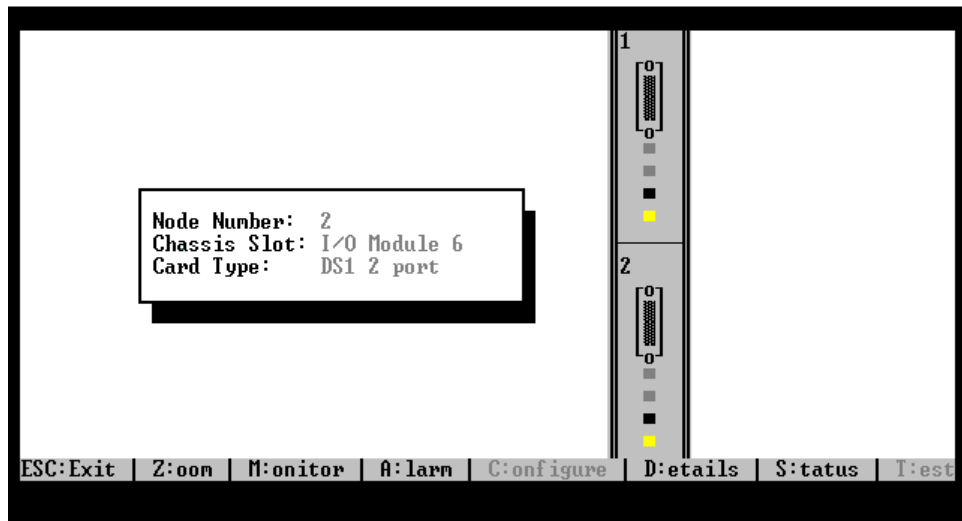

Figure 3-2. Example of the Front View of a DS1 Module
2. Select Z:oom. An example is shown in Figure 3-2.